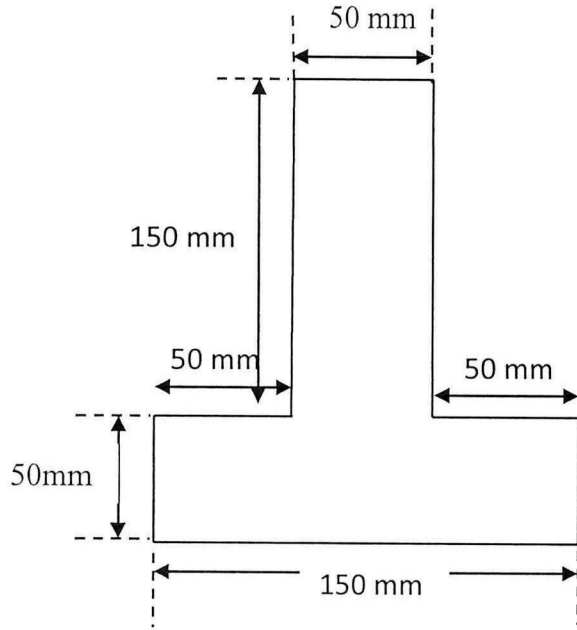

FIGURE Q3(b)
- (b) A 3 m column which is pinned at both ends and with the cross section shown in **Figure Q3(b)** is constructed from two pieces of timber, that act as a unit. If the modulus of elasticity of timber is  $E=13$  GPa, determine;